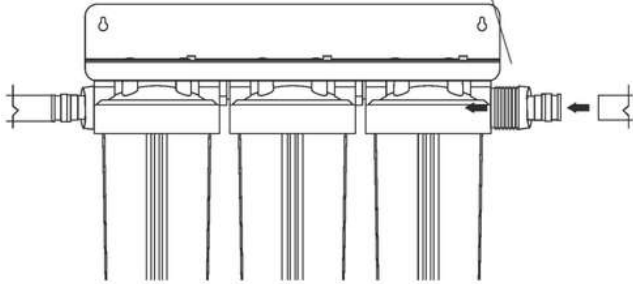

Figure 1
2. Remark two 1". Brass PEX-A Expansion Barb x 1" MNPT Male Adapter (not included in the box). Wrap more than 1 O turns of Teflon tape on the external thread of the Adapter. Screw one end of the external thread into the thread of the 1" FNPT filter bottle and tighten it with a wrench. (Figure 1)